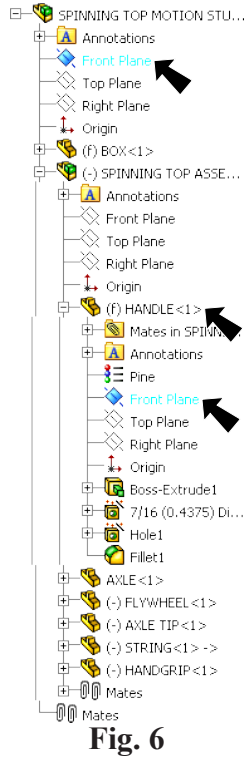

Fig. 6
Step 2. Click **Front Plane**, **Fig. 6**.
Step 3. Expand **HANDLE** and click **Front Plane**, **Fig. 6**.